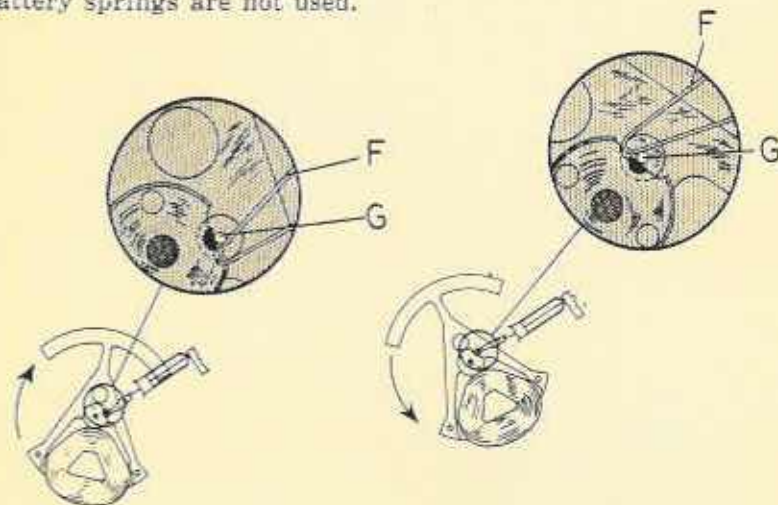

FIGURE 12
Figures 12 and 13 show how the looped contact spring (F) makes contact with the contact pin (G), connected to the terminal of the balance coil. The contact spring is first touched by the edge of the D-shaped jewel behind the contact pin. This keeps the circuit open until the coil is in position over a wing of the magnet below. The looped spring (F) then flips off the D-jewel and onto the contact pin (G), completing the circuit. The coil is energized and propelled further along in the same arc it was traversing at the point of contact.